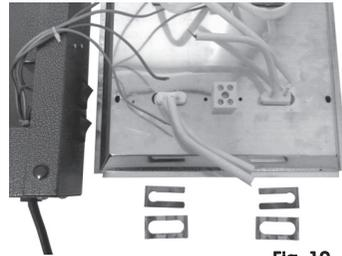

Fig. 10
5. Slide out both sides of the retaining spring clips that secure the element into position (Fig.10).